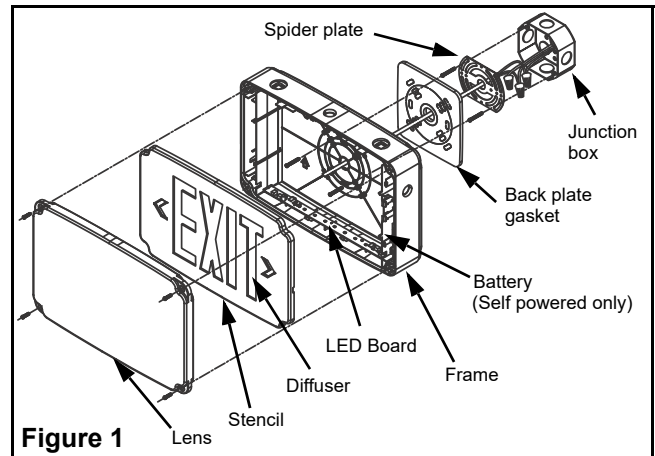

Figure 1
3. Open unit by loosening screws on lens (Fig. 1).
Wall mount (Figure 1)